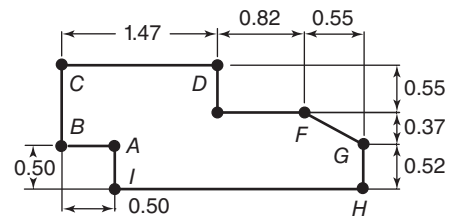

Figure 17-37 Write a set of incremental coordinates for this part.
- Write a set of incremental coordinates for the shape shown in Fig. 17-37. Note that the drawing scale needn't be actual size. Assume the tool is positioned at the PRZ (lower left corner) and proceed to point A,